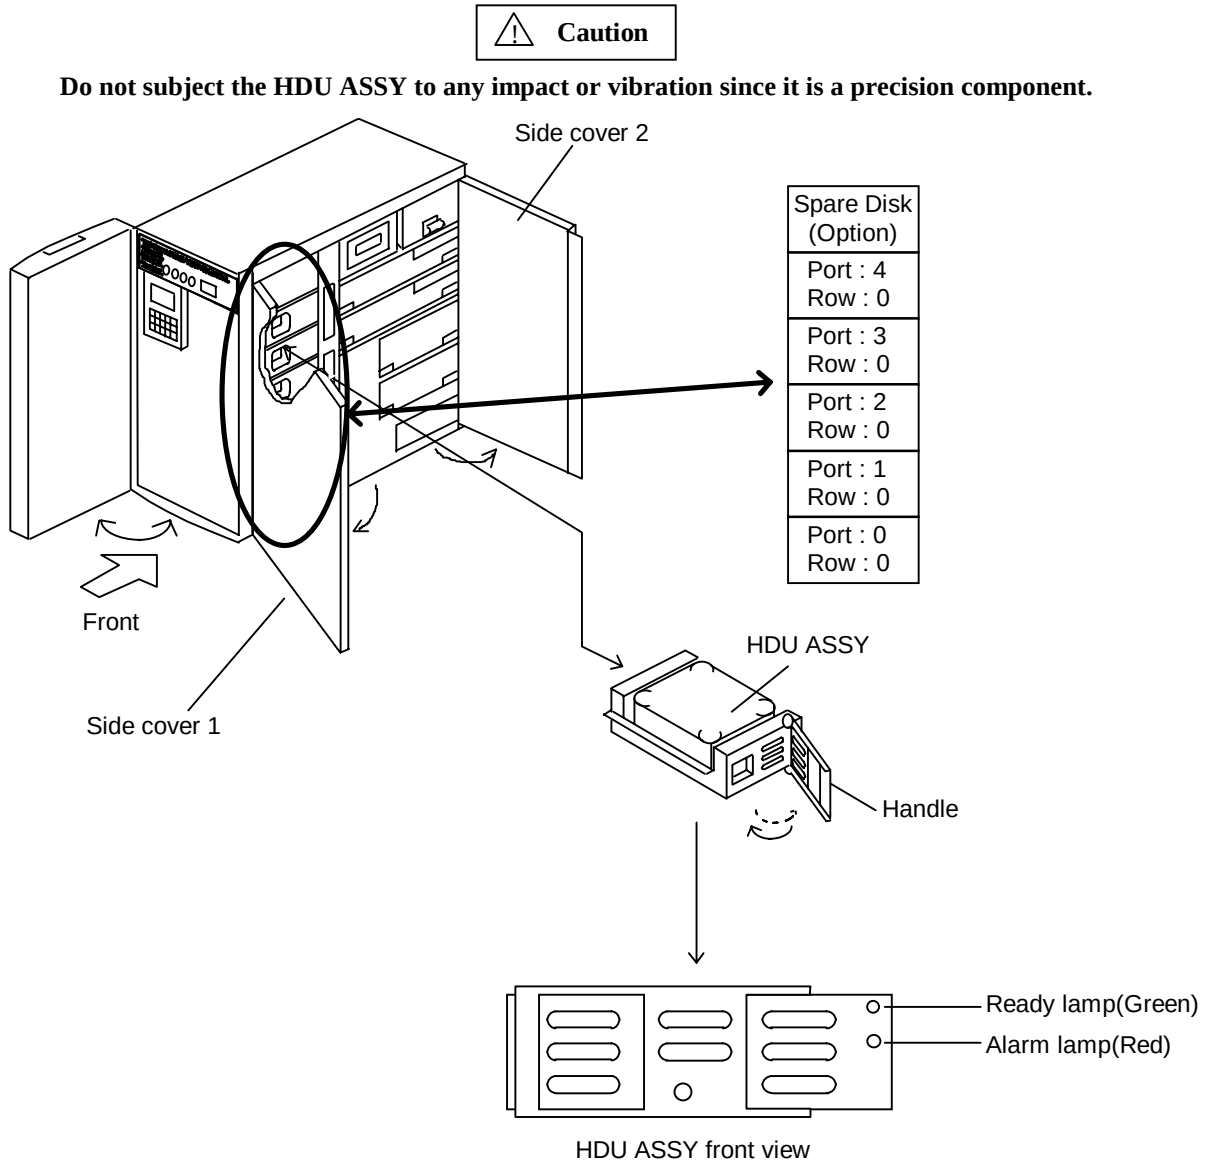

Figure 2.9.1 Installing the HDU ASSY
- (2) Open the front cover and the side covers.
(3) Remove the old HDU ASSY and set the new HDU ASSY. (See Figure 2.9.1 in MK-OPTION0210.)
(4) Set the DIP switches 4 and 6 on the CTL ASSY to down.